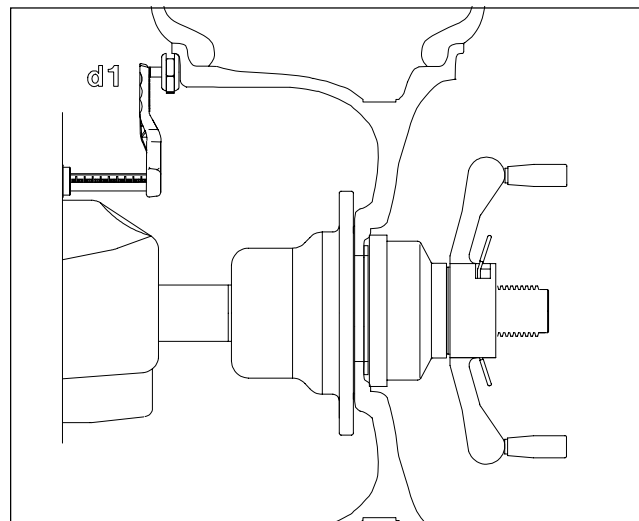

Figure 31
2. Extend the rim offset gauge arm and touch the position of the left weight position. See Figure 31. The display will read "d - 1" on its center window with the distance displayed in its left window and new diameter in the right window. The high tone will sound when dimensions are entered. Return the gauge arm to the rest position, a low pitch tone will indicate when it is OK to proceed.